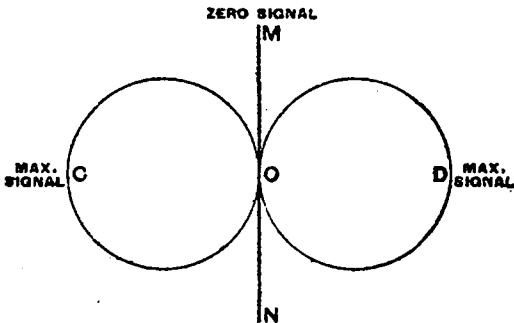
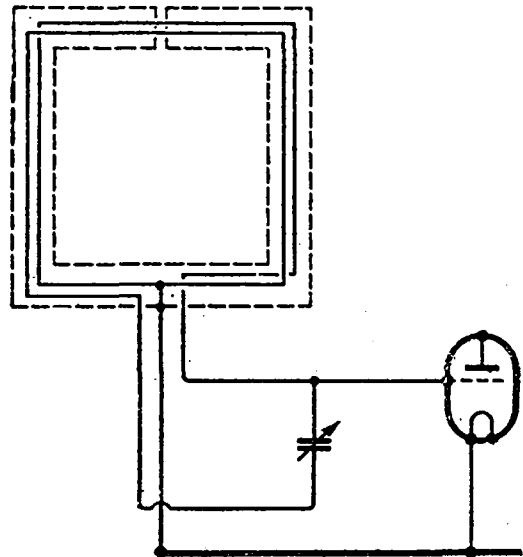

Fig. 2—The "figure-of-eight" diagram represents the waxing and waning of signal strength that occurs as a frame is rotated through 360 degrees.
Fig. 4—"Vertical effect" which gives rise to errors, is minimised by centre tapping the frame and enclosing it in an almost complete screen.
Y. It is the difference between the voltages at X and Y which causes a current to flow round the loop, thus producing a Pd across grid and filament of the valve at G. If the frame is now rotated through 90° so that the plane of X and Y are at right angles to the transmitter, the voltages induced in X and Y will be equal at any given moment and there no current will flow in the loop. If the frame is rotated a further 90° X and Y will again be in the same plane as the transmitter and current will flow, due to the difference of voltage, but as the wave will now strike Y before X the PD at G will be in the opposite phase. Rotating the frame through 360° the resultant PD at G may be plotted as the well-known figure-of-eight diagram, Fig. 2. It will be seen that the two points of minimum signal M and N are far more clearly defined than the points of maximum, hence the reason for always taking bearings on the minimum signal.
M. O. N are distorted instead of being at 180° as in Fig 2. Vertical effect also causes another trouble—that is, blunt or indefinite minima. It is possible to eliminate most of the vertical pick-up in frame aerials by connecting the centre tap to earth as in Fig. 4. The loop should always be wound as a solenoid, and for best results should have an electrostatic screen earthed to the centre tap of